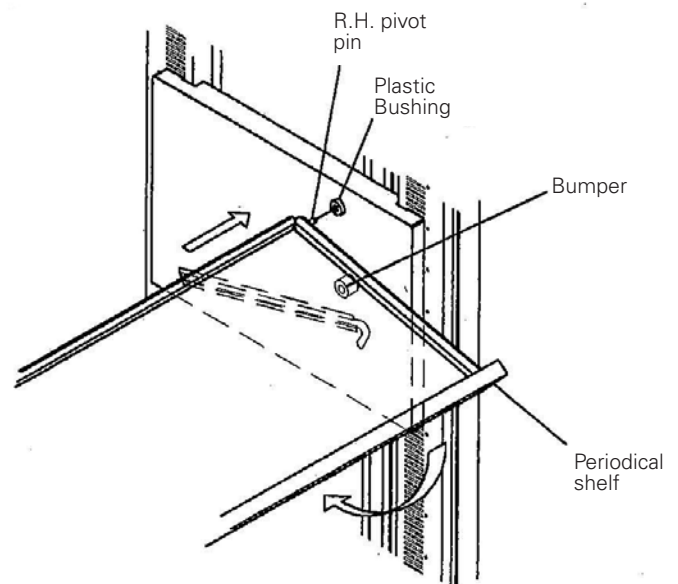

Figure 3
3. Next install the periodical shelf (see Figure 3). Hold the shelf horizontally between the two end brackets, above the bumpers. Retract the L.H. pivot pin on the shelf and insert the R.H. pivot pin into the plastic busing in the R.H. end bracket. Then release the L.H. pivot pin into the plastic bushing in the L.H. end bracket. Rotate the front of the shelf down until it rests against the bumpers.